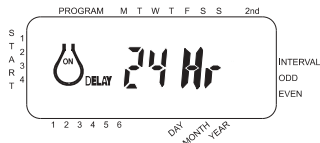

Figure 14: LCD Display with Rain Delay
- To cancel the rain delay mode, press clear [See Figure 14].